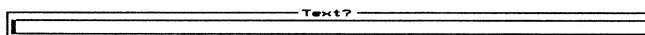

Figure 4-16. The **Text** entry box.
16. Type **P T** (for **PLACE Text**). The **Text** entry box displays (figure 4-16).